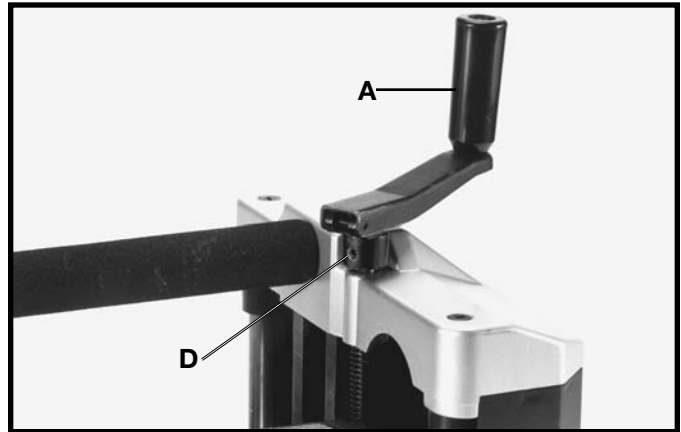

Fig. 9
3. Rotate handle (A) to the operating position as shown in Fig. 9, and tighten set screw (D).